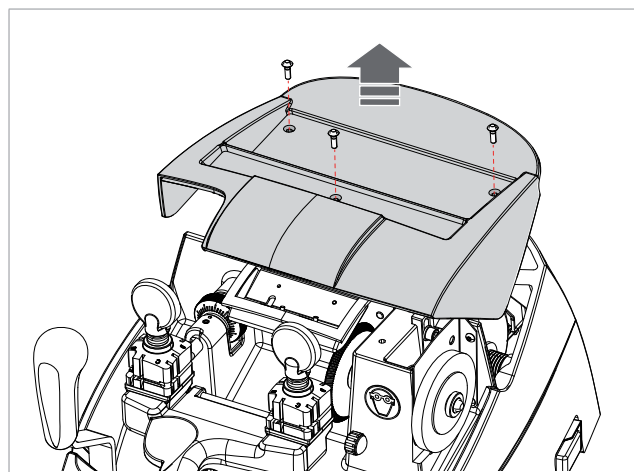

Fig. 52
- 2) Loosen the 3 screws (M1) and remove the top cover (M) (Fig. 52).